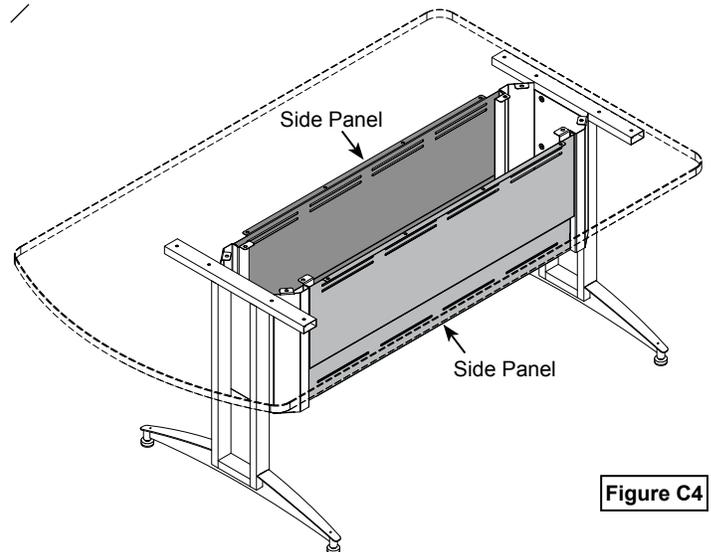

Figure C4
2. Secure the side panels using the slots and 1/4-20 x 5/8" PHM screws into the worksurface. **Figure C4.**